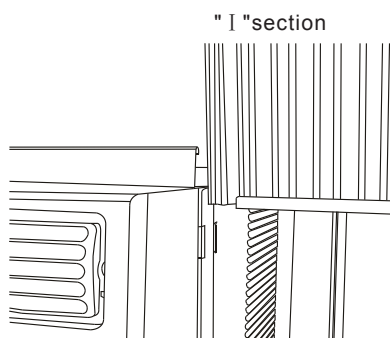

Fig.2
- B. Slide the free end "I" section of the panel directly into the cabinet as shown in Fig. 2. Slide the panel down. Be sure to leave enough space to slip the top and bottom of the frame into the rails on the cabinet.